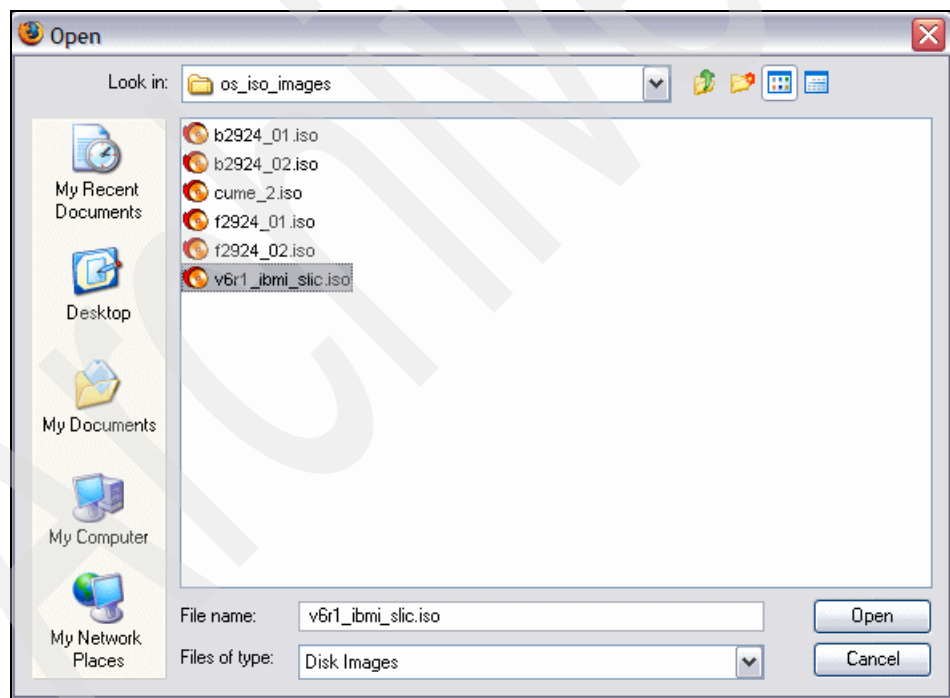

Figure 7-86 Browse and select file
7. Click **Add**. You may now browse for the specific file you want to add, as shown in Figure 7-86.